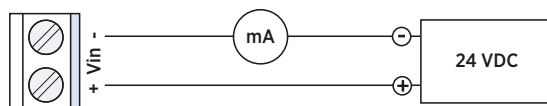

Figure 2 Wiring for 2-wire Output
- 2-wire output: see Figure 2 (page 2). Provide a 24 VDC supply voltage.